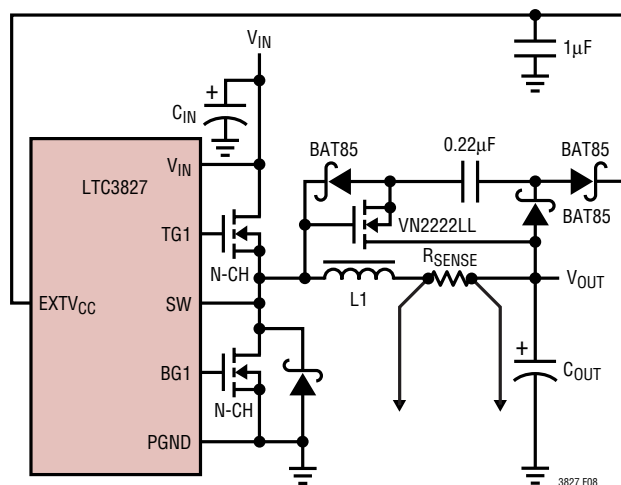

Figure 8. Capacitive Charge Pump for EXTVCC
4. EXTVCC Connected to an Output-Derived Boost Network. For 3.3V and other low voltage regulators, efficiency gains can still be realized by connecting EXTVCC to an output-derived voltage that has been boosted to greater than 4.7V. This can be done with the capacitive charge pump shown in Figure 8.